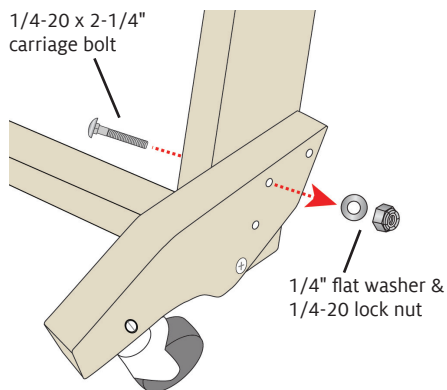

FIGURE 6: ATTACH FRONT STROLLER BLOCK THROUGH TOP HOLE
5. Attach the top hole of the stroller block with a 1/4-20 x 2-1/4" carriage bolt, a 1/4" flat washer, and a 1/4-20 lock nut (Figure 6; see p. 2 for carriage bolt installation). Depress the brake release pedal or undo the brake cord so you can reach the hardware.